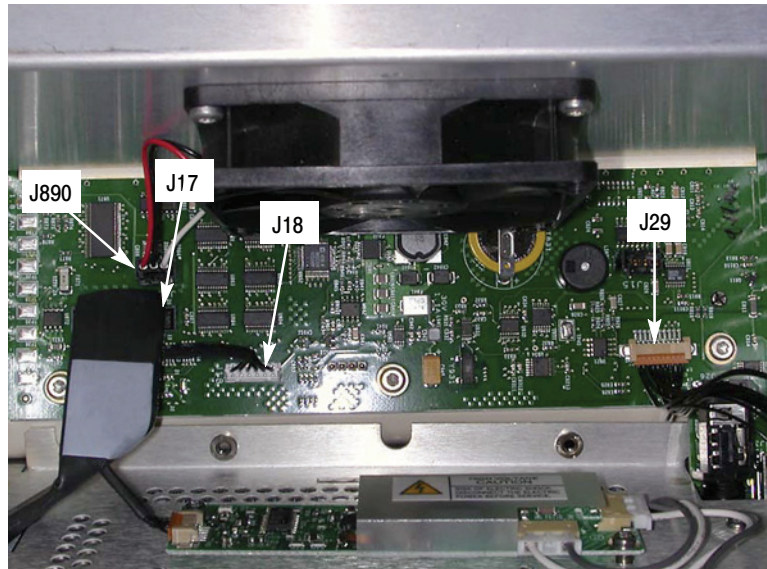

Figure 4: New front panel cable connections
2. Pre-form the LCD cable, to J17, as shown in Figure 4, to make installation easier. This cable is quite stiff and can make installation difficult if it is not pre-formed.
Make sure to dress the LCD cable (to J17) away from the side of the waveform monitor. Also, use the LCD cable to capture the cable going to J18. See Figure 4.
1. Insert the fan connector into J890 (see Figure 4). This is a latching connector, and is keyed for polarity.
If the waveform monitor does not power up correctly during the Verify Operation procedure, check the connections at both ends of the front panel cables. Table 1 shows the most common problems and the associated cable to check. Refer to Figure 4 for cable locations.